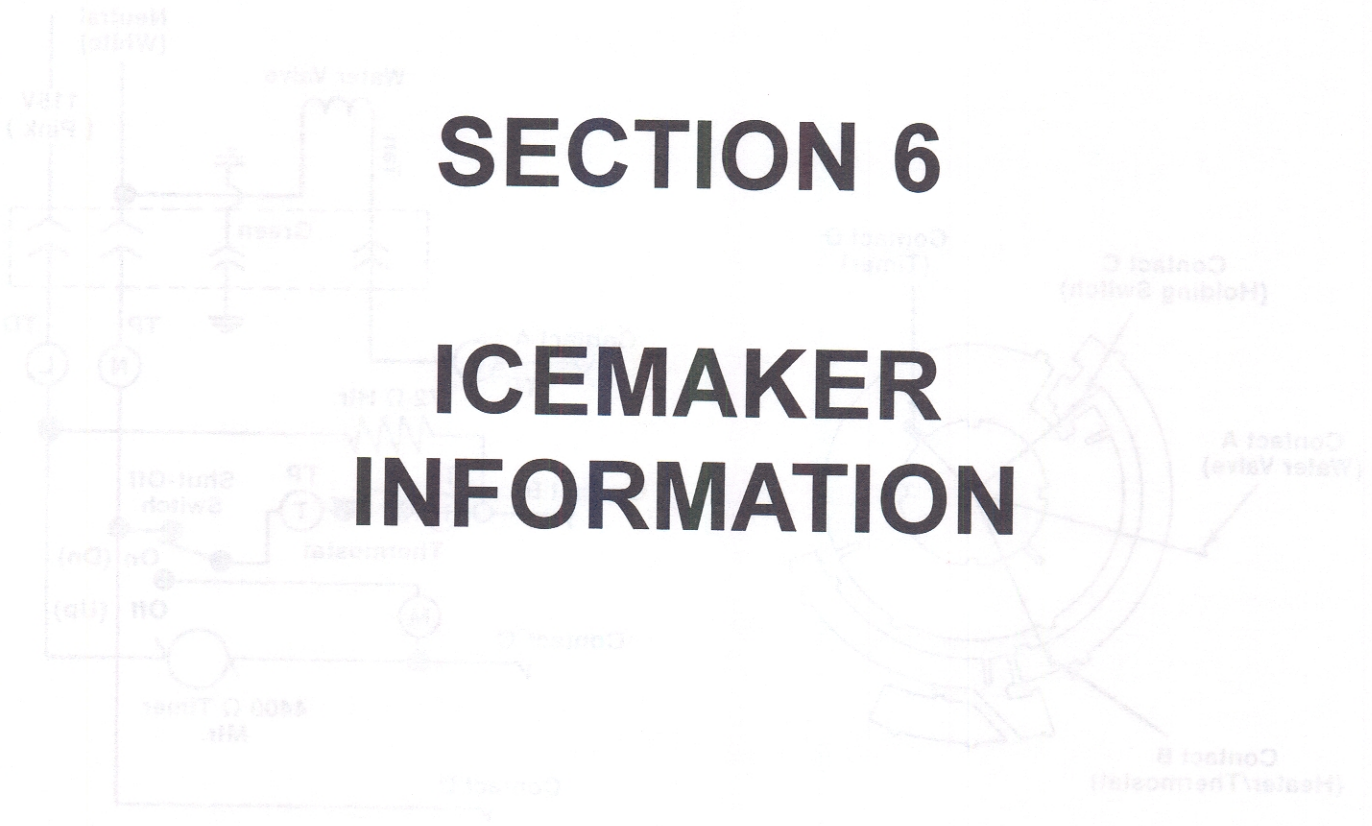

Figure 6-1: Modular Icemaker Electrical Schematic
When the icemaker thermostat rises to its setpoint, the thermostat closes. At this time, the current now has a path through the thermostat to the motor. The motor is energized, the drive gear, from the module, starts to rotate. The drive gear is in contact with the lower gear. (See Figure 6-1.) As the drive gear rotates, these contacts from the module engage a contact (A) on the upper plate to generate the icemaker cycle.